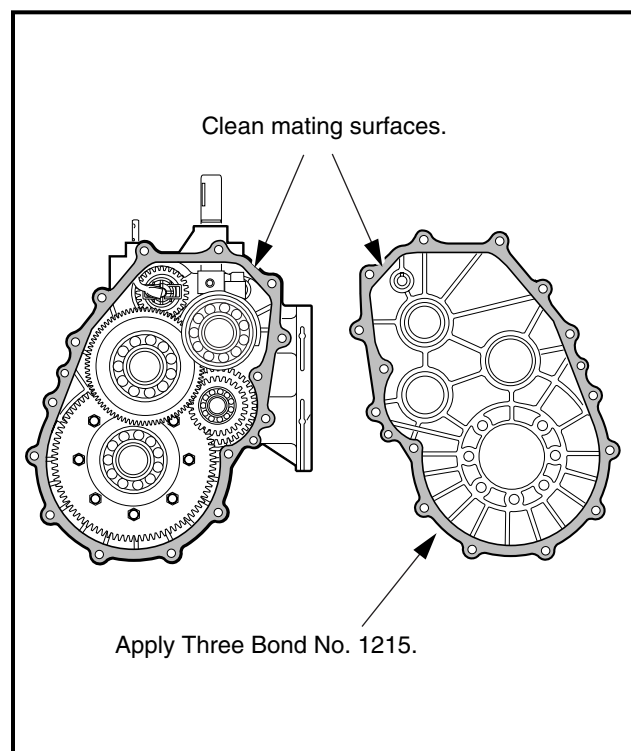

Figure 5-52 Prepare Mating Surfaces
8. Make sure the mating surfaces of the left and right sides of the case are clean and free of oil, grease, or residue of any kind, and they are not scratched or damaged in any way (**Figure 5-52, Page 5-25**).